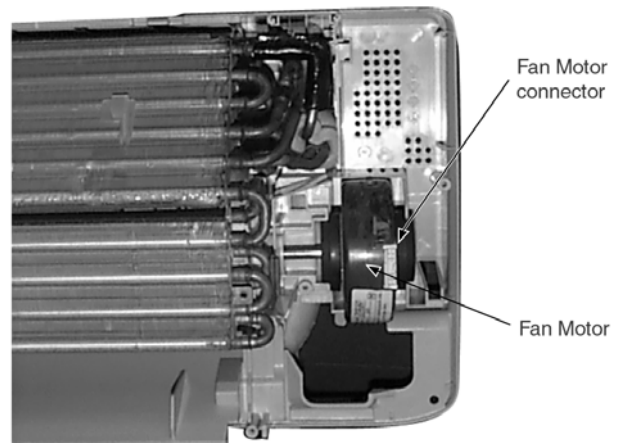

Fig. 6
- Release the Fan motor leadwire by pressing the hook at the center of the connector. (Fig. 6)